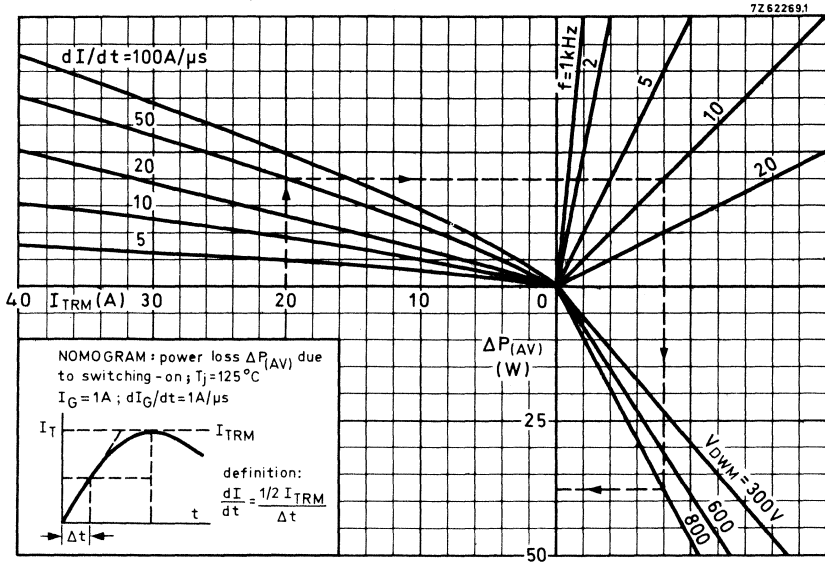

Fig. 13.
- a. The curves in Figs 13 and 14 show the additional average power losses due to turning on and turning off the thyristor in square pulse operation. This power should be added to that derived from the curves in Fig. 5.